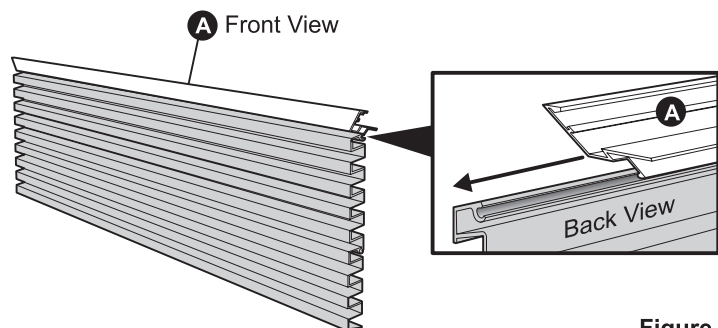

Figure 3
3. Slide grille assembly into top trim(A). See Figure 3. Tape together to prevent parts from sliding.